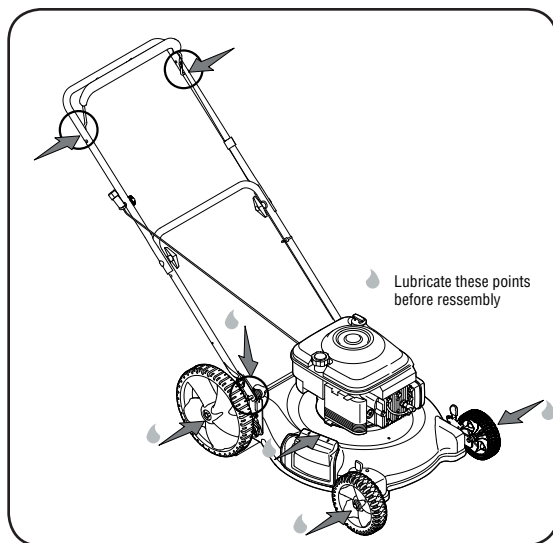

Figure 12
1. Lubricate the pivot points on the blade control handle at least once a season with light oil. The blade control must operate freely in both directions. See Figure 12.
3. Lubricate the torsion spring and pivot point on the rear door periodically with light oil to prevent rust. See Figure 12.